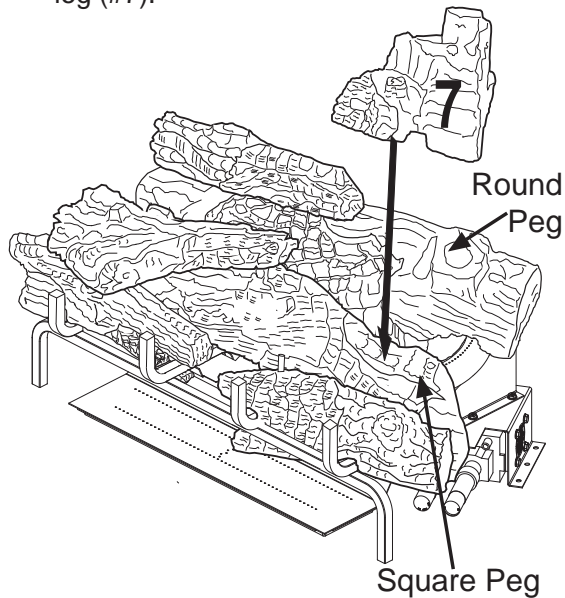

Figure 27 - Installing Log # 7
7. Place the right rear chunk log (#7) on top of the middle log (#2) and rear log (#1) as shown in **Figure 27**. Match the round peg on the top of the rear log (#1) with the round hole on the bottom of the right rear chunk (#7) log and square peg on the top of the middle log (#2) with the square hole on the bottom of the right rear chunk log (#7).